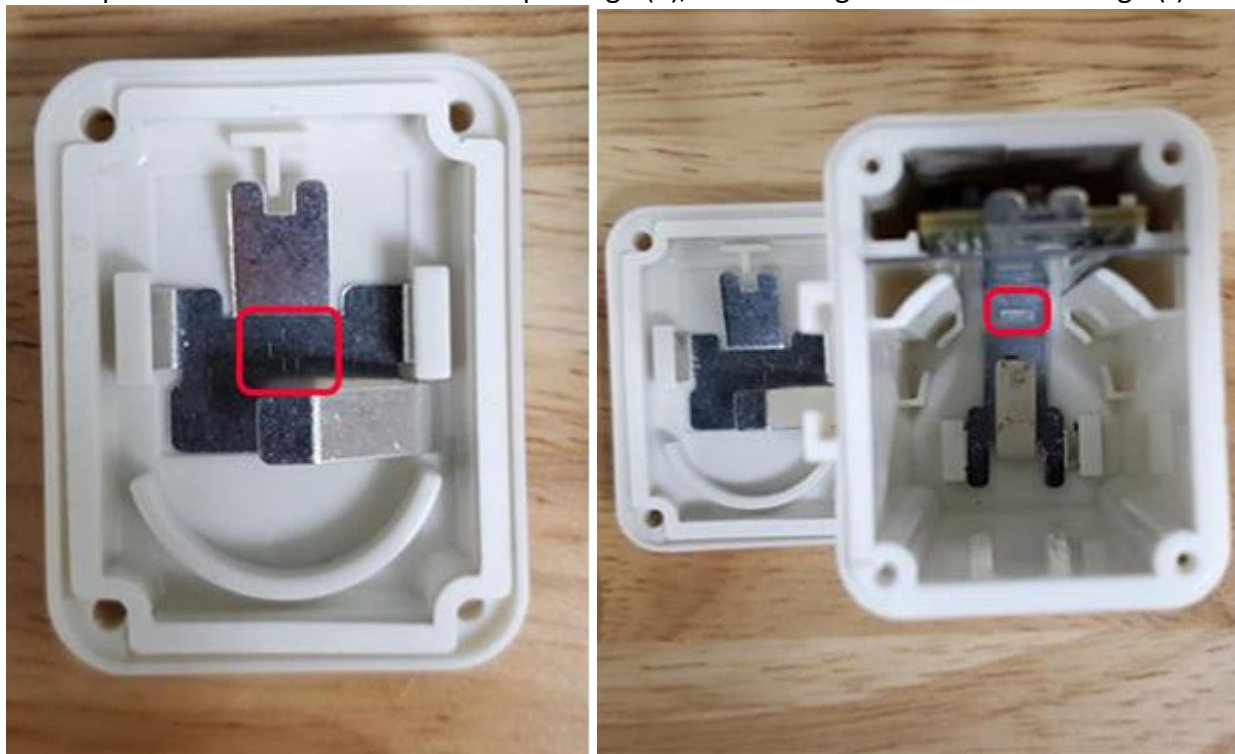

Figure 2-9: Battery Polarity Markers and Insertion
2. Remove and the used battery, and replace it with a new 3.6V XENO XL-145F battery **ONLY**. When inserting the new battery, insert the negative terminal side first. The battery contacts are marked with their proper polarities (see Figure 2-9), with the positive terminal marked with a plus-sign (+), and the negative with a minus-sign (-).